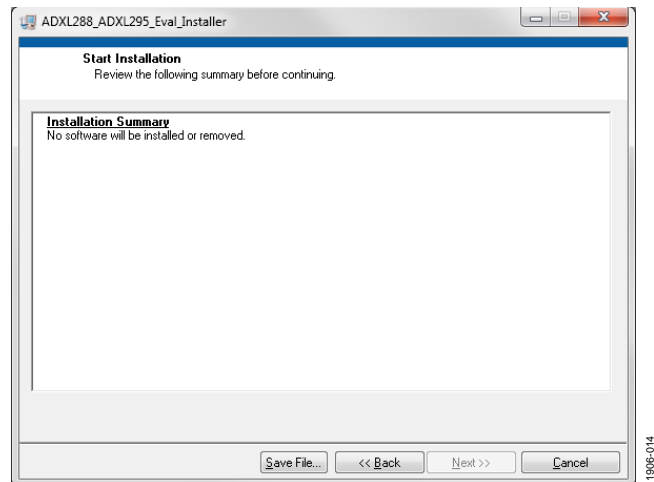

Figure 14. Start Installation (Listing Varies Based on PC Requirements)
3. Read the **National Instruments Software License Agreement**. Choose **I accept the License Agreement(s)**, and then click **Next**. The installer then lists the required components to be installed on the PC (see Figure 14).